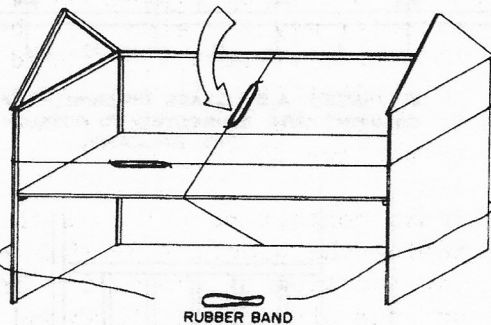

FIG. 24
9. Tie strings around the house as shown in figure 24. Use rubber bands to keep the string tight. This will keep the floor tight against the walls. Stick pins into the wall panels at floor level to wedge the floor down against the floor supports.